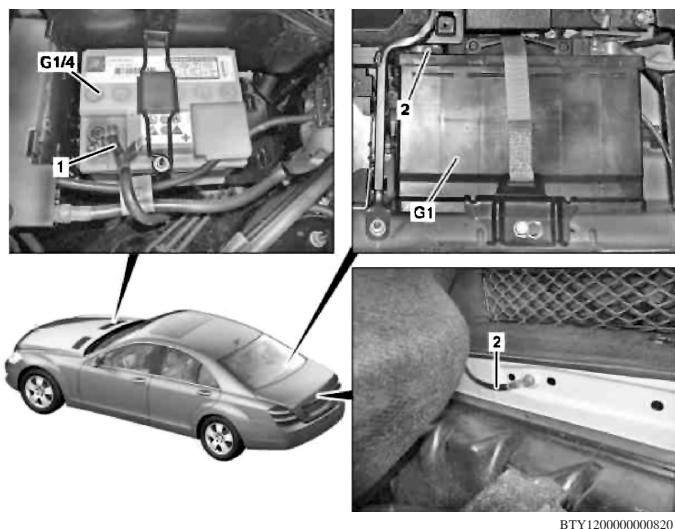

Fig. 1 Primary battery ground removal
2. Loosen nut on ground line (1) and remove ground line (1) from terminal of starter battery (G1/4), **Fig. 1**.
4. Remove bolt of ground line (2) of on-board electrical system battery (G1) on longitudinal member and set ground line (2) aside, **Fig. 1**.
8. Loosen nut on ground line (2) and remove ground line (2) from terminal of on-board electrical system battery (G1), **Fig. 1**.